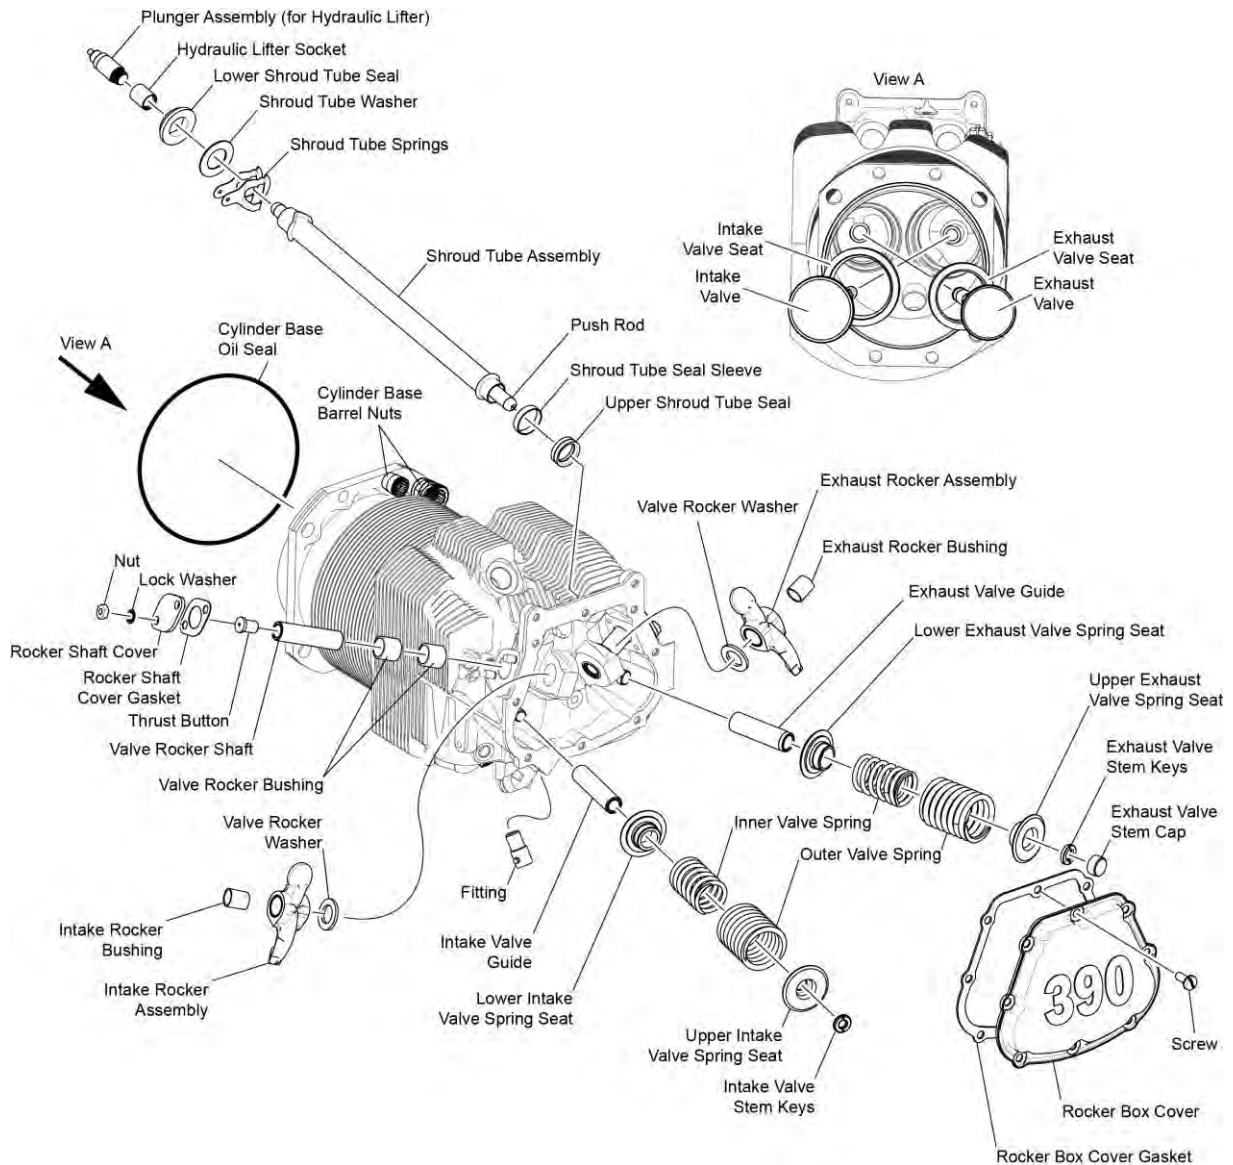

Figure 24
- (2) Compress the intake valve springs with a Valve Spring Compressor Tool (ST-25) and remove the valve stem keys (Figure 24).
- (3) Remove the valve spring seats and valve springs from the intake valve.
NOTICE: Use care not to scratch the inside of the cylinder barrel when installing the intake valve (Figure 24).
- (1) Apply a coating of Castrol® Contractor Special NLGI#1 to the intake valve stem (or other lubricant identified in the latest revision of Service Instruction No. SI-1059.)
- (2) Install a serviceable intake valve in the valve guide (Figure 24), through the cylinder barrel.
- (3) Install the valve spring seats and valve springs.
- (4) Compress the intake valve springs with a Valve Spring Compressor Tool (ST-25) and install the valve stem keys.
- (5) Install the cylinder on the engine per the “Cylinder Installation” procedure in this chapter.
- (3) Compress the exhaust valve springs with a Valve Spring Compressor Tool (ST-25) and remove the valve stem keys (Figure 24).
- (4) Remove the valve spring seats, and valve springs from the exhaust valve.
⚠ CAUTION: INSTALL THE CYLINDER BASE OIL SEAL RING (FIGURE 24) AROUND THE CYLINDER BASE. DO NOT USE ANY ADDITIONAL SEALANT OR GASKET MATERIAL WHICH COULD DETERIORATE WHICH COULD CAUSE A REDUCED TORQUE ON THE CYLINDER BASE STUDS.
- E. If not already done, install both rocker shafts in the cylinder head (Figure 24).
NOTICE: Install the upper and lower shroud tube seals (Figure 24) in the crankcase first.